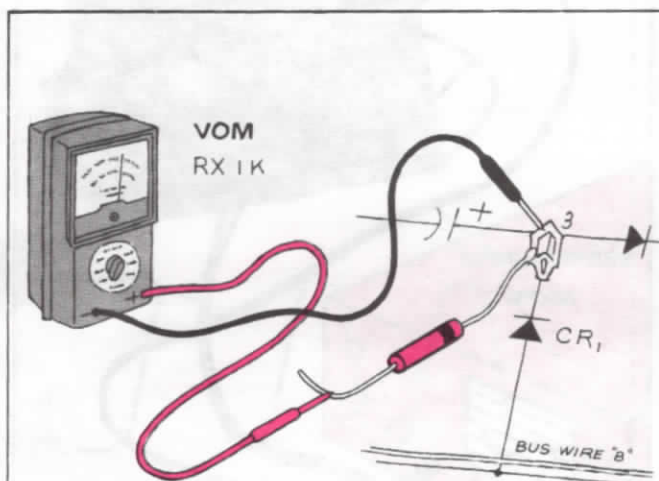

FIG. 19
- b. Unsolder the anode lead of diode CR1 from bus wire B. Use a heat sink. (Refer to Figure 19.)
- c. Adjust your VOM to the R x 1K-ohm resistance range. Connect the positive (+) meter lead to the anode lead of diode CR1, and connect the negative (-) meter lead to the cathode lead (marked with a colored band), which is still soldered to pin 3. (Refer to Figure 19.) Record your resistance reading: _____. Your reading should be approximately 2K. The diode is now conducting or passing current (from the VOM).